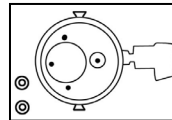

Fig 4.
5. Remove two screws (1/8 hex) holding Secondary Filter Element Cover (the 1" round plate) in place, and remove cover (See Fig 4.)